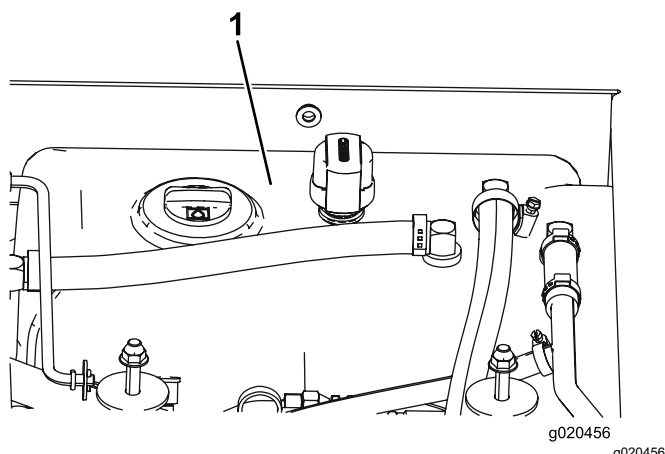

Figure 80
4. Fill the reservoir (Figure 80) with hydraulic fluid; refer to Checking the Hydraulic Fluid (page 64).